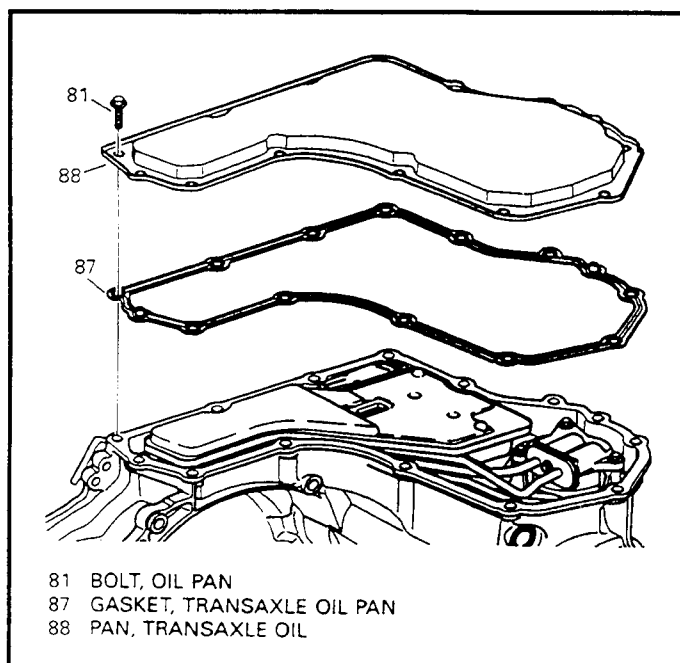

Figure 48
18. Remove the twelve bottom oil pan bolts, the oil pan, and oil pan gasket as shown in Figure 48.